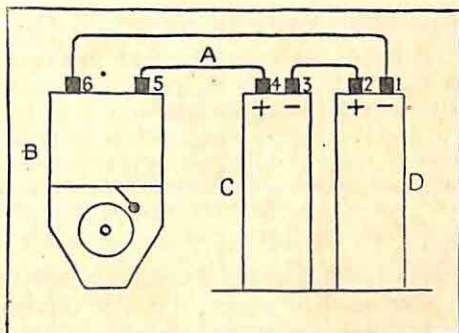

Fig. 34
40. Fit up an electric bell as shown in fig. 34.
You find that the bell rings as long as the terminals are joined up as in fig. 34. If, however, any terminal is